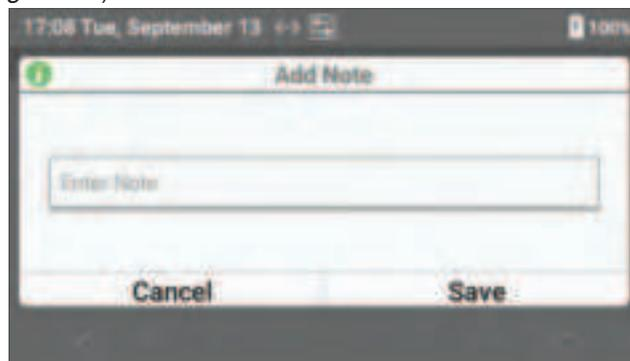

Figure 72: Add User Note
- **Add a user note** – Select  (Result Details) and then select  (User Note). Enter the note (30 characters maximum) and select **Save** (Figure 72).